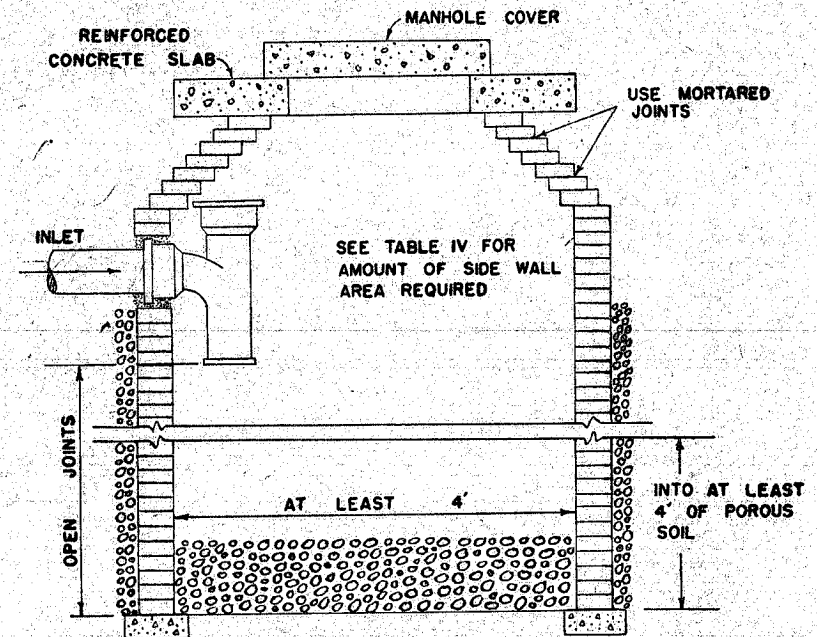

Figure 17—Details of Seepage Pit. Connect septic tank to pit with a tight jointed sewer.
1. Below the inlet, construct the pit wall with open joints. Draw in the portion of the pit wall above the inlet using tight mortar joint construction as illustrated in Figure 17.